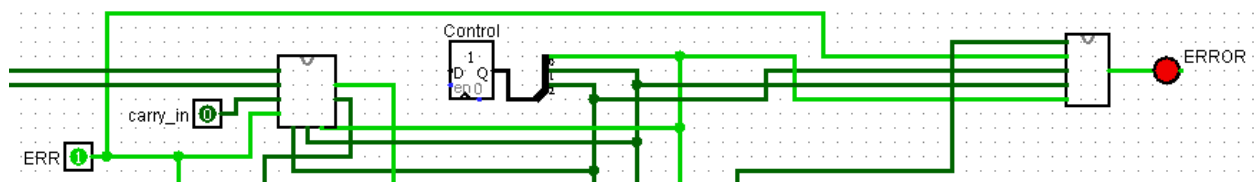

Figure 2: The error LED is lit when control signal 001 = 0x1, an invalid instruction, is received.
- All other signal inputs should light an error LED (Figure 2).